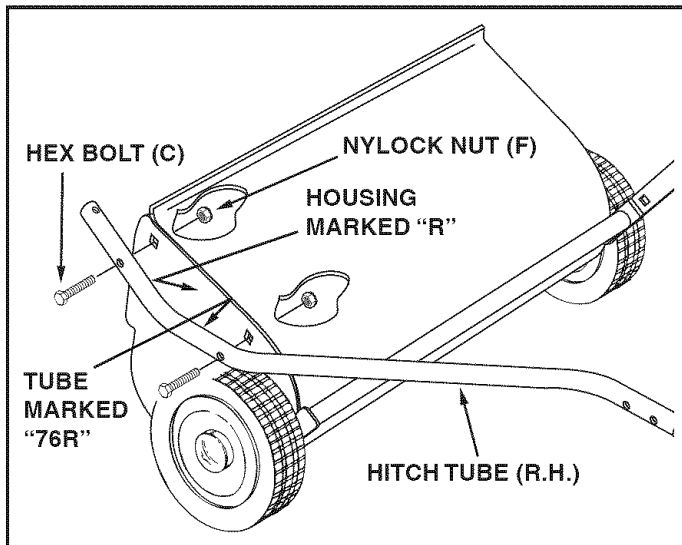

FIGURE 1
- (1) Hammer
- (2) 1/2" Wrenches
- The hitch tubes are stamped with a "77L" for the left tube and a "76R" for the right tube. The sweeper housing is marked with an "L" on the left with side and an "R" on the right side. See figures 1 and 2.
- Hold the right hitch tube against the right side of the sweeper so that the "76R" on the tube faces **toward** the sweeper. Attach the hitch tube using two hex bolts (C) and nylock nuts (F). **Do not tighten yet.** See figure 1.